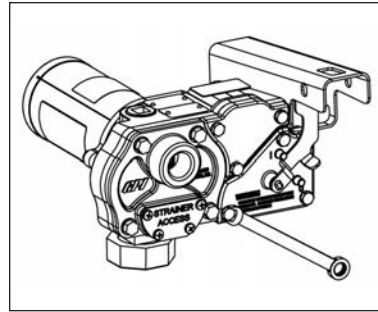

Figure 10
2. Remove the electrical coverplate from the pump housing. (Figure 10) Evaluate condition of gasket. Replace as needed.